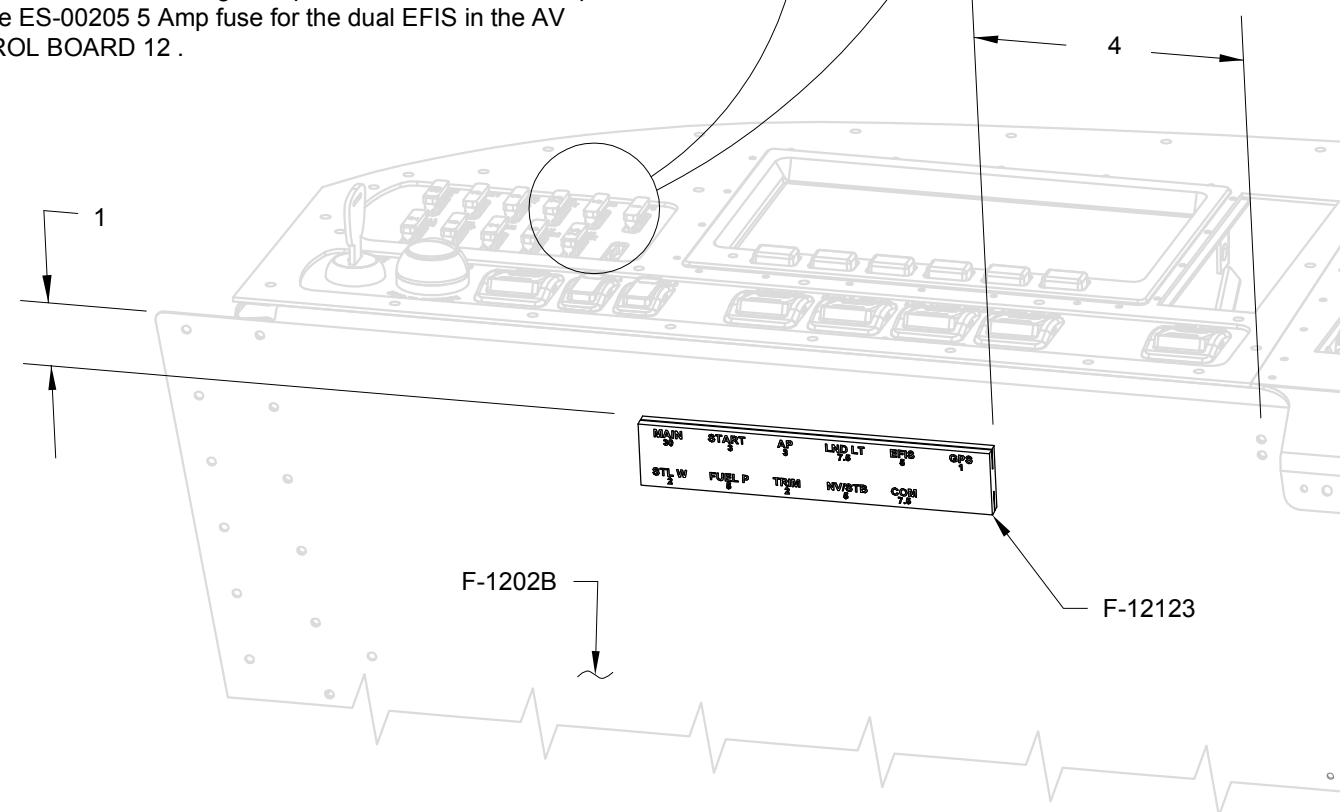

FIGURE 4: INSTALLING FUSE HOLDER ASSEMBLY TO UNDERSIDE OF PANEL BASE
Step 5: Adhere the F-12123 Fuse Holder Assembly to the bottom of the F-1202B Panel Base as shown in Figure 4.